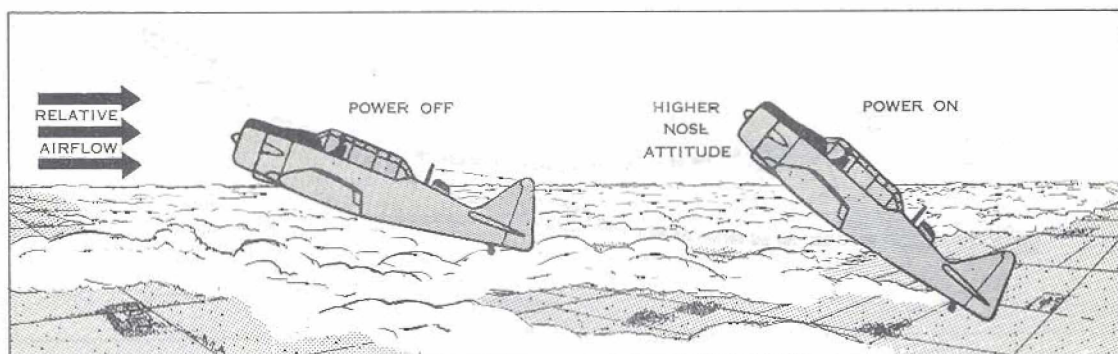

Figure 1: The Attitude in a Stall
(3) **THE STALL WITH WHEELS AND FLAPS "DOWN"** - Lowering flap increases the effective camber of the wing and the coefficient of lift, thus lowering the stalling speed by several knots, depending on the amount of flap used. Drag is also increased proportionately. This configuration simulates stalling on the final approach, the procedure for stalling the aircraft being the same as that described in paragraph (2). Note that, although the stalling speed is lower, the symptoms are the same, except that the nose drops a little further and the recovery takes more time. Usually more height is lost than in the stall with wheels and flaps "UP". When you have become proficient in stalling the aircraft straight ahead, try one from a 30 degree banked turn, to simulate a stall during the final turn onto the approach.
(4) **THE POWER-ON STALL** - A power-on stall can occur during climbing turns, overshoots, or while practising aerobatics. To practise this type of stall, clear the area and adjust the throttle to give 20 to 25" MP before raising the nose to approximately 40 degrees above the horizon. By raising the nose to this extent, you avoid keeping the aircraft in a prolonged nose-high attitude while waiting for it to stall. The characteristics of the stall are similar to those experienced during the power-off stall, except that, although the nose and wing tend to drop more rapidly, the rudders and elevators retain their effectiveness because of the airflow from the propeller. The stalling speed is noticeably lower, while the nose attitude is considerably higher. (Figure 1) Recovery is effected in the usual way, but the forward movement of the control column does not have to be as great, since the higher power setting enables the aircraft to attain flying speed sooner. The loss of altitude is much less than in the types of stalls mentioned previously.